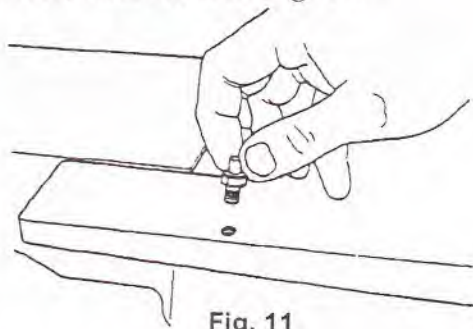

Fig. 11
18. Thread the stop stud (16) into the jointer table, as shown in Fig. 11.